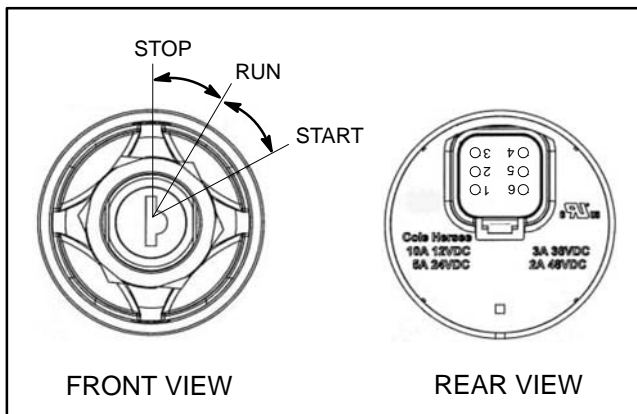

Figure 33
The ignition (key) switch is located on the control console and has three (3) positions: STOP, RUN and START (Fig. 33). The ignition switch is an input for the Toro Electronic Controller (TEC).
3. The ignition switch terminals are identified as shown in Figure 33. With the use of a multimeter (ohms setting), the switch functions can be tested to determine whether continuity exists between the various terminals for each switch position. Verify continuity between switch terminals.